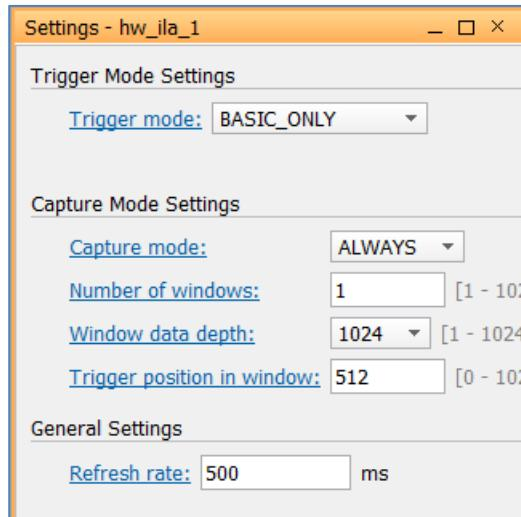

Figure 48: Change Debug Probe Settings
12. You also want to see several samples of the captured data before and after the trigger condition. Change the trigger position to the middle of the 1024 sample window by setting the **Trigger Position in window** for the hw_ila_1 core in the ILA Properties window to 512 and then pressing Enter (Figure 48).